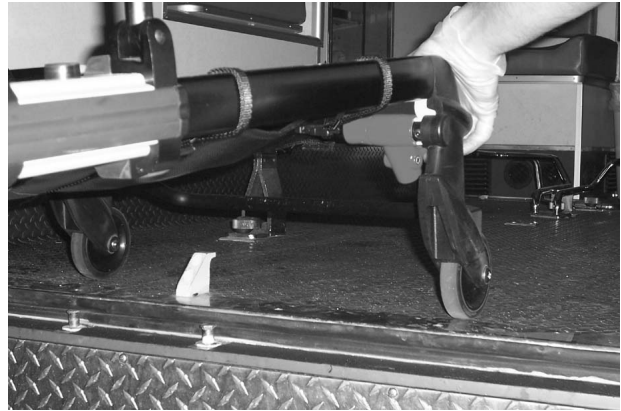

Figure 16: Disengaging the Safety Bar
7. **Operator 2** – Pull the safety bar release lever forward to disengage the safety bar from the safety hook in the patient compartment as shown in Figure 16.